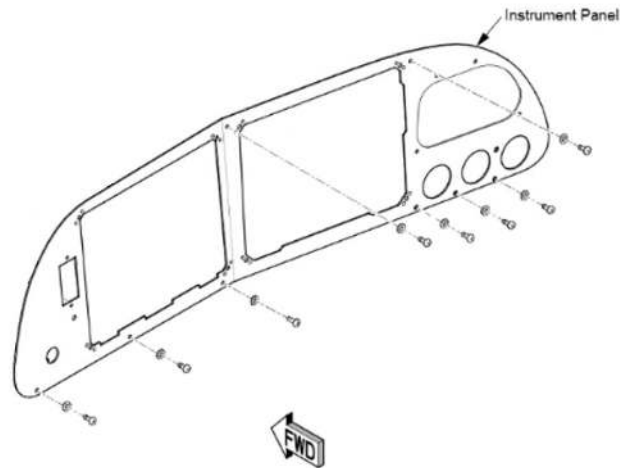

Figure 4-5: Panel Mount Hardware Provided
1. Utilizing the pilot-facing panel mount hardware provided in the 820-00134-000 component kit (see section 1.7) and other retained hardware, install the new instrument panel in the reverse order of removal. The hardware provided in the 820-00134-000 kit is shown in Figure 4-5:. Optionally, all retained hardware may be used instead of the hardware provided.